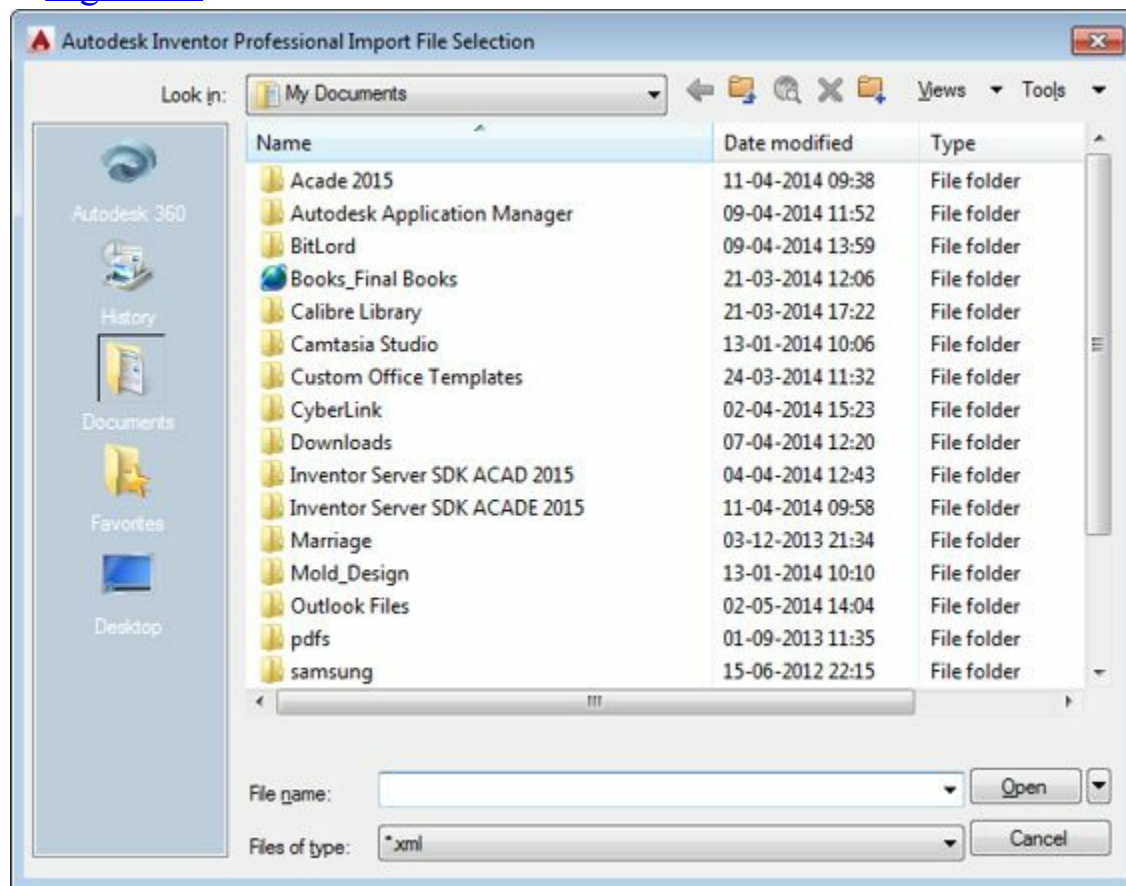

Figure-15. Autodesk Inventor Professional Import File Selection dialog box
- Click on the **Insert Connector (From List)** tool from the **Insert Connectors** drop-down. The **Autodesk Inventor Professional Import File Selection** dialog box will be displayed; refer to Figure-15.